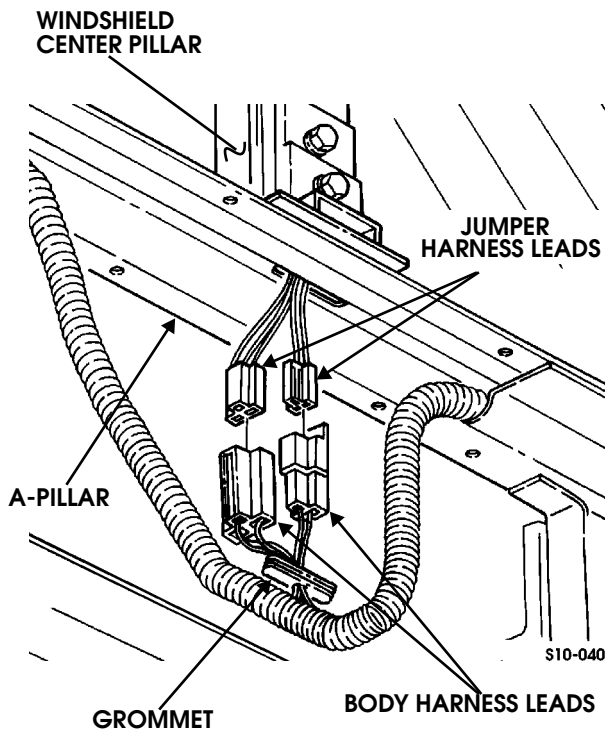

Figure 10-105: Wiring Harness Lead and Grommet Location
6. Remove grommet from windshield center pillar and disconnect two jumper harness leads from body harness leads (Figure 10-105).
4. Connect two jumper harness leads to body harness leads and insert grommet into windshield center pillar (Figure 10-105).